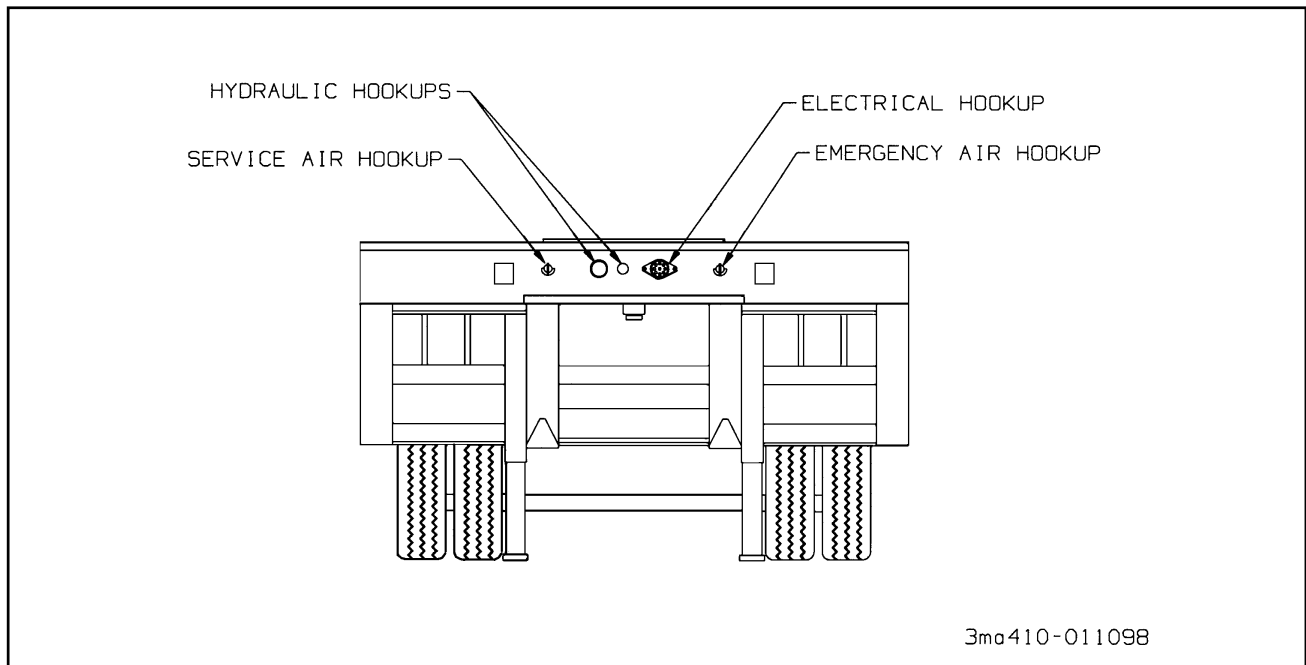

Figure 3-3 Service Hookups
**3-2.3** Connect the service and emergency air hoses of the towing vehicle to their respective gladhand on the front of the semitrailer; red emergency line to the gladhand with the "**EMERGENCY**" tag, and the blue service line to the gladhand with the "**SERVICE**" tag (See **Figure 3-3**). Chock the semitrailer wheels before activating the semitrailer air supply valve in the towing vehicle. Set the parking brakes.
- 3-4.1 Connect the towing vehicle 7-pole electrical plug to the electrical receptacle on the front of the semitrailer (See Figure 3-3).